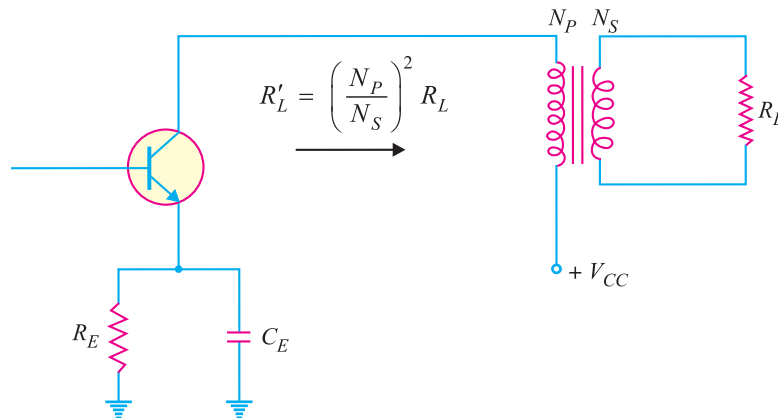

Fig. 11.17
**Applications.** Transformer coupling is mostly employed for *impedance matching*. In general, the last stage of a multistage amplifier is the *power stage*. Here, a concentrated effort is made to transfer maximum power to the output device *e.g.* a loudspeaker. For maximum power transfer, the impedance of power source should be equal to that of load. Usually, the impedance of an output device is a few ohms whereas the output impedance of transistor is several hundred times this value. In order to match the impedance, a step-down transformer of proper turn ratio is used. The impedance of secondary of the transformer is made equal to the load impedance and primary impedance equal to the output impedance of transistor. Fig. 11.17 illustrates the impedance matching by a step-down transformer. The output device (*e.g.* speaker) connected to the secondary has a small resistance  $R_L$ . The load  $R'_L$  appearing on the primary side will be: